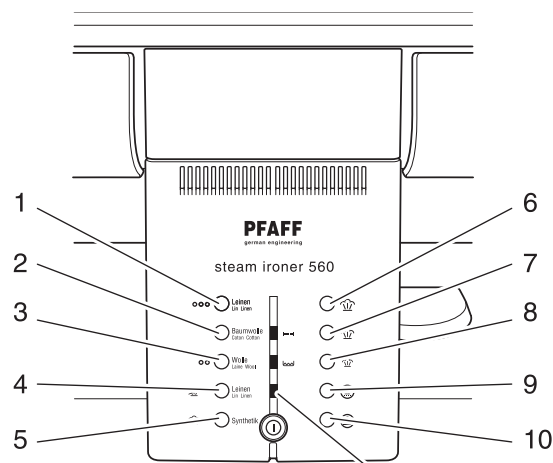

Fig. 26
- The test mode is indicated by the flashing green LED 11 fig. 26 („appliance ON“)
- By operating the heating-level keys you can select a test program for each component/unit of the steam ironer as below (fig. 26):